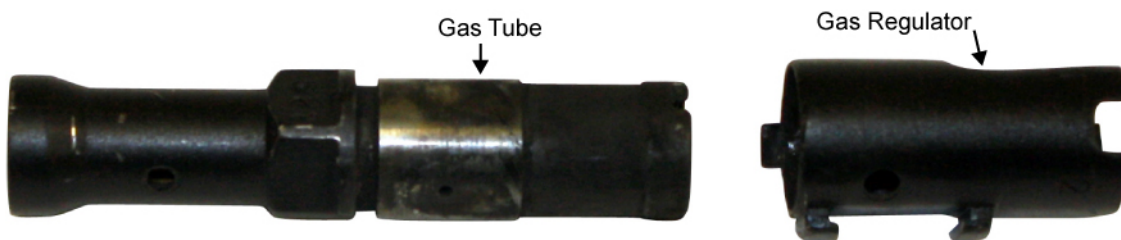

Figure 4. Gas Tube and Gas Regulator.
6. Separate the gas regulator from the gas tube by pulling away from each other. Refer to Figure 4.